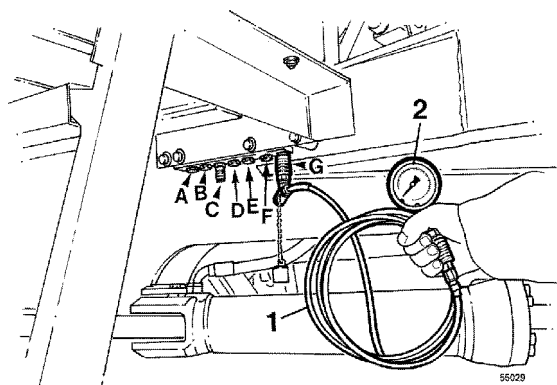

Figure 3
5. Directional gear in neutral position. The main pressure is measured at item G, see Figure 3.
Speed gears 1, 2, 3 or 4 (certain markets only 3) should be selected and the clutch pressures measured at the panel, outlets A – D, see Figure 3.
7. Directional gear in forward and reverse positions respectively. The clutch pressures for the respective gears are measured at items E and F, see Figure 3.